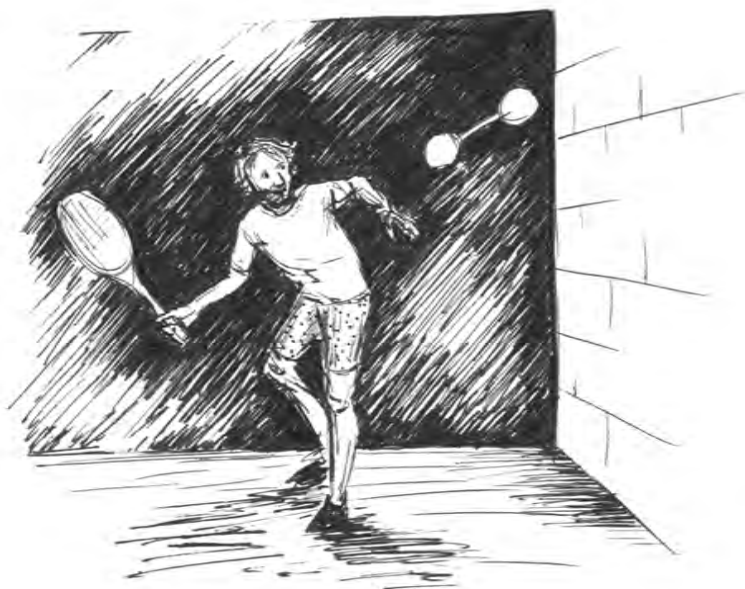

Fig. 1: Playing squash with molecules. (Picture: Sonja Schäfer)
Membrane fusion is a process, where two initially separated membrane compartments merge together to exchange their internal aqueous content. Membrane fusion is involved in many transport processes in living organisms. In particular in multicellular eukaryotes, many fundamental functions rely on such transport processes, not least because their cells are extensively subdivided into sub-cellular compartments by lipid bilayer membranes. Neurotransmitter release (Fig. 1), fertilization of an egg by a sperm cell, and transport of waste products to the lysosome are a few of the many processes in eukaryotes that rely on some form of fusion. Moreover, entry of infectious pathogens such as viruses is governed by fusion, as many bilayer-coated viruses have dedicated fusion proteins to enter the host cell. Fusion is also an important mechanism for transport of lipids from their site of synthesis to the membrane where they are needed.
Fig. 1. (A) Schematic overview of the synapse. When a nerve signal (action potential) arrives, synaptic vesicles fuse with the synaptic membrane to release neurotransmitters (adapted from *NIA, Wikimedia Commons, Public Domain*). **(B, C)** Molecular simulations of synaptic fusion mediated by SNARE proteins. The pathway of this reaction (B to C) and the precise role of the SNARE molecules is the main focus of our research depicted here.
One of our main goals in the work depicted here is to simulate synaptic fusion (Fig. 1)^{1,2}. In this essential process, a synaptic vesicle filled with neurotransmitter molecules fuses with the presynaptic plasma membrane to facilitate neurotransmitter release. SNARE molecules are the core constituents of this fusion process. Fig. 2 shows different snapshots of the simulated SNARE-mediated fusion reaction extracted from MD simulations. Note that SNAREs perform a scissor action